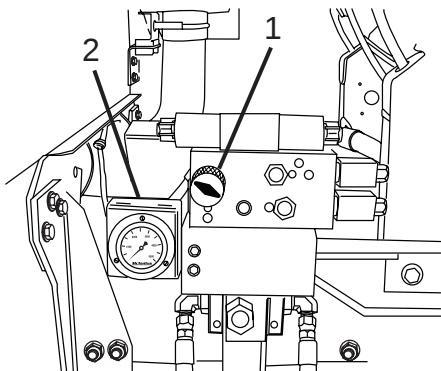

Figure 65
4. Once the pressure requirements have been determined, use the PRV knob (Figure 65, Item 1) to adjust the valve to the required pressure. Pressure will be displayed on the gauge (Figure 65, Item 2).